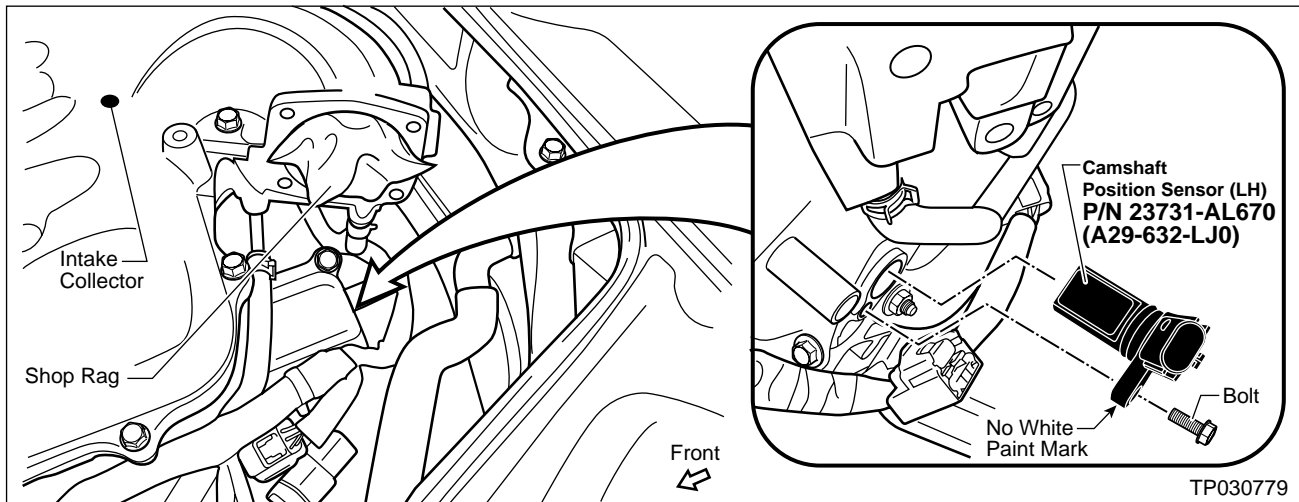

Figure 16
**CAUTION:** Avoid engine damage; place a shop rag in the opening of the intake collector (see Figure 16, next page).
4. Locate the driver's side (LH) **Camshaft Position Sensor** (see Figure 16).